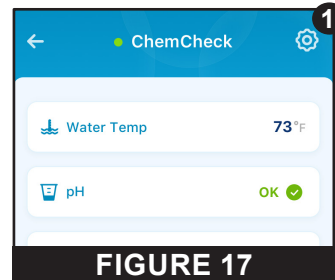

FIGURE 17
2. At the ChemCheck Dashboard, press the Settings icon (**Figure 17**).